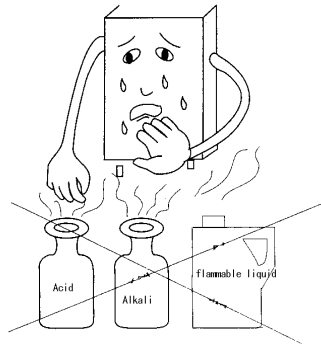

Fig 13
- Do not place inflammables like towels or clothing onto the heater or exhaust. (Fig.13)